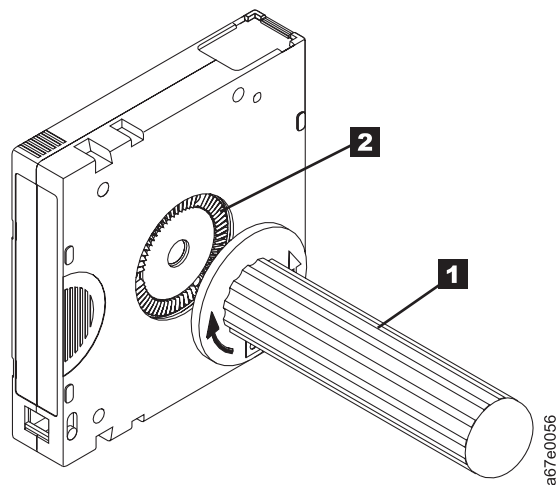

Figure 122. Rewinding the tape into the cartridge
5. To rewind the tape, insert the cartridge manual rewind tool (**1** in Figure 122) into the cartridge's hub (**2**) and turn it clockwise until the tape becomes taut.